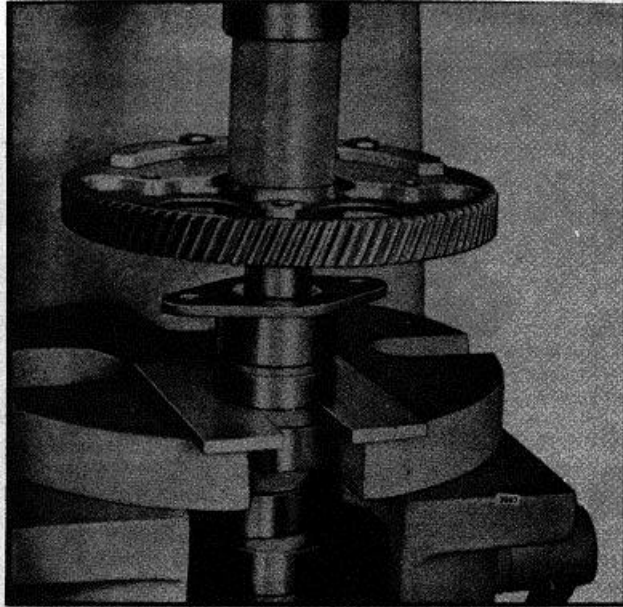

Figure 2. Installing Camshaft Gear
5. Then, with the camshaft supported in an arbor press, place a sleeve on top of the gear and under the ram of the press. Bring the ram of the press down on the sleeve and press the gear tight against the spacer on the shaft (Fig. 2).